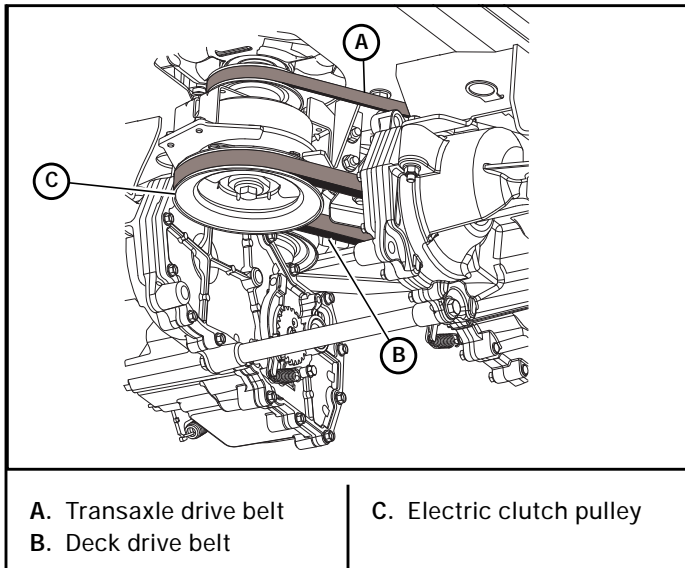

Figure 4-13
- Remove the deck drive belt from the electric clutch pulley located on the engine shaft. Figure 4-13
- Reroute the deck drive belt around the electric clutch pulley. Make certain the belt is routed properly around the spindle pulleys and stationary idler pulley(s). Figure 4-13